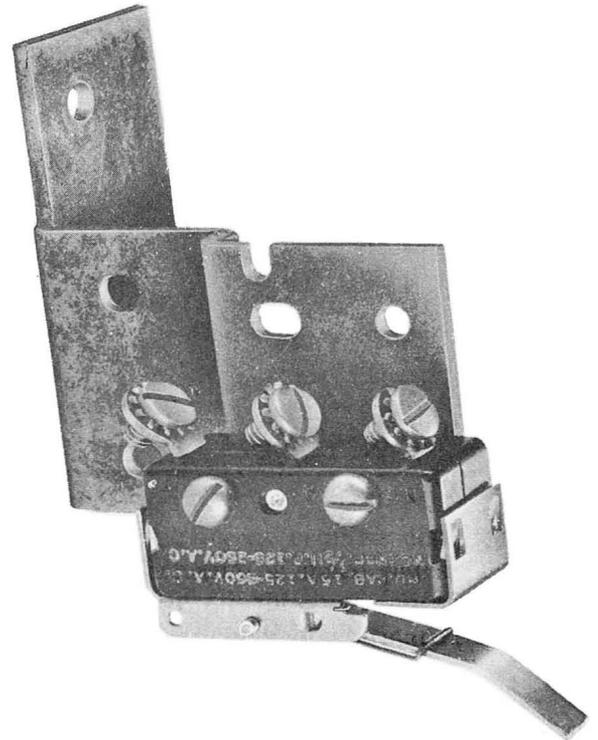

Fig. 11 – 1A Alarm Switch
4.03 A 1A switch kit assembly is available for installation in the 1A1 coin telephone. (See Fig. 11.) The 1A switch kit consists of two micro-switches equipped with brackets, actuators and screws. The P-25E056 switch is designed to mount over the vault. The actuator of this switch ex-